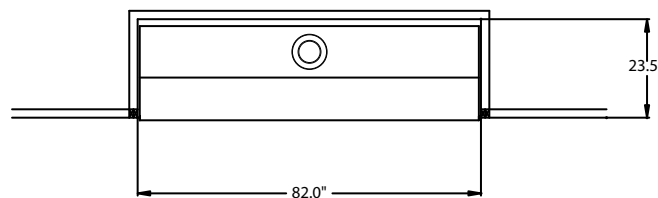

Figure 2 - Framing Dimensions
2. Minimum outside dimensions of the material over the facing are 82" x 39-1/2" (see *Figure 2*).